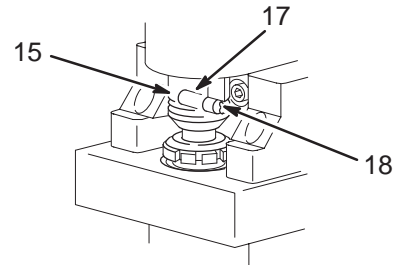

Fig. 11
2. Try to stop the pump with the piston rod (107) in its lowest position. To lower the piston rod manually, rotate the motor fan blades. Use a screwdriver to push the retaining spring (18) up and push out the pin (17). See Fig. 11.